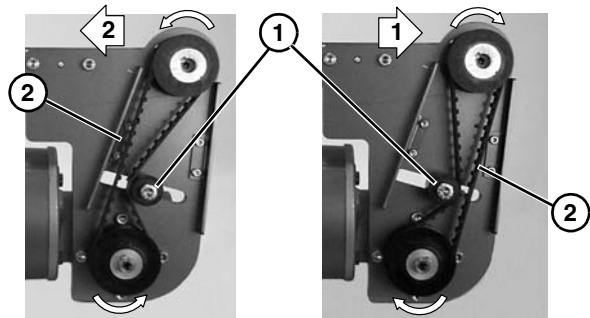

Figure 23
5. Depending on conveyor belt travel (direction 1 or 2), locate timing belt tensioner (**Figure 23, item 1**) as shown. Tension timing belt to obtain 0.125" (3 mm) deflection for 1.0 lb (456 grams) of force at timing belt mid-point (**Figure 23, item 2**). Tighten tensioner screw to 103 in-lb (12 N-m).